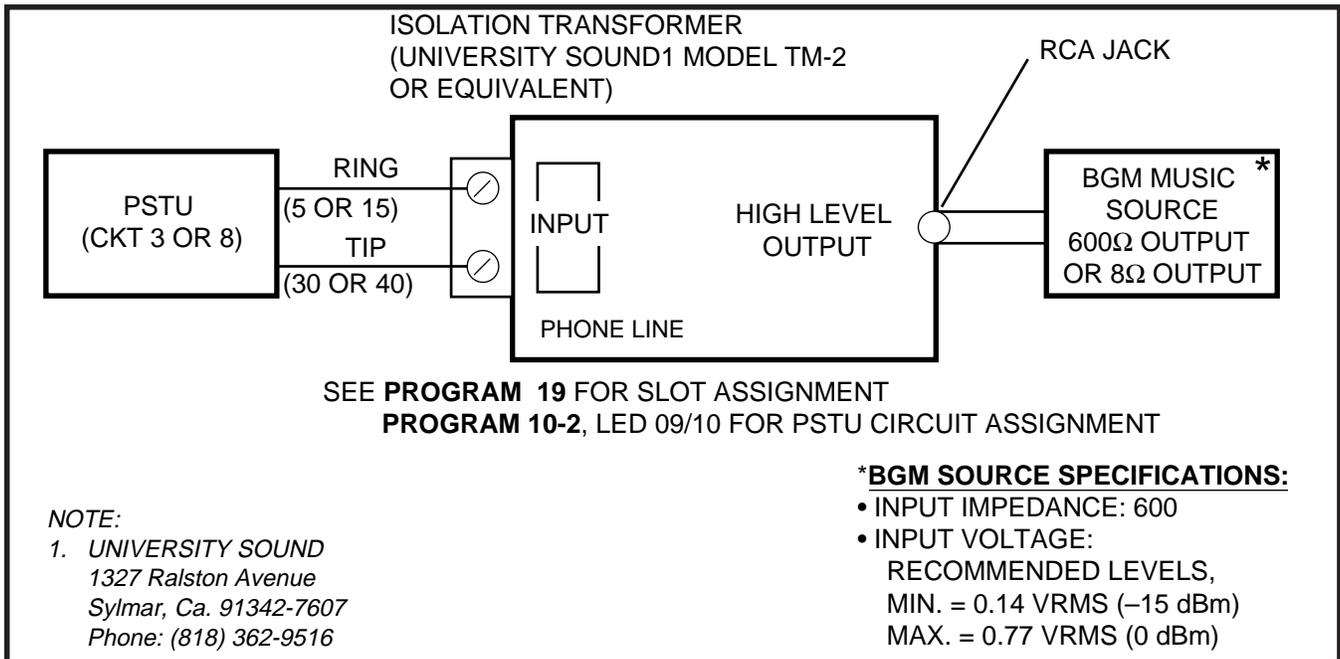

FIGURE 8-6
- 2B) If connecting the BGM source to a PSTU: Connect Circuit 3 or 8 of the PSTU to a customer-supplied isolation transformer and BGM source per Figure 8-6.